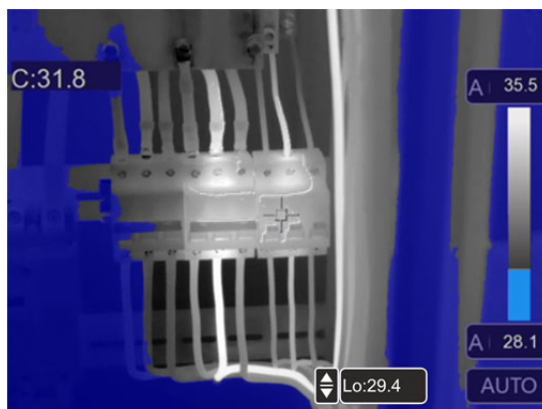

Fig. 41: Selection of isotherm line Alarm low Temp.
7. Touch the “Lo” field at the bottom of the display and use the arrow keys ▲ or ▼ to set the value of the **minimum** temperature threshold below which the instrument shows image spots in blue colour, and the remaining spots in grey colour (see Fig. 41).